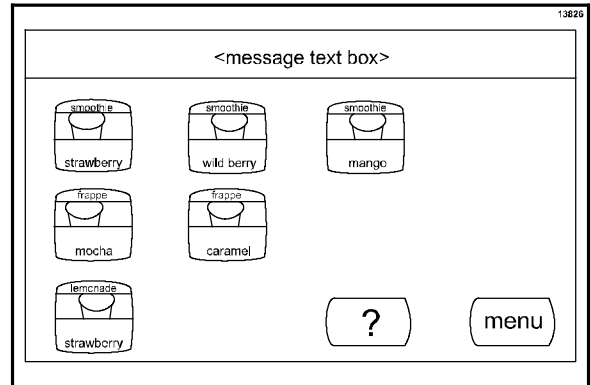

Figure 167
20. When the bag has finished priming, the screen will return to the Beverage Selection Screen. (See Figure 167.)